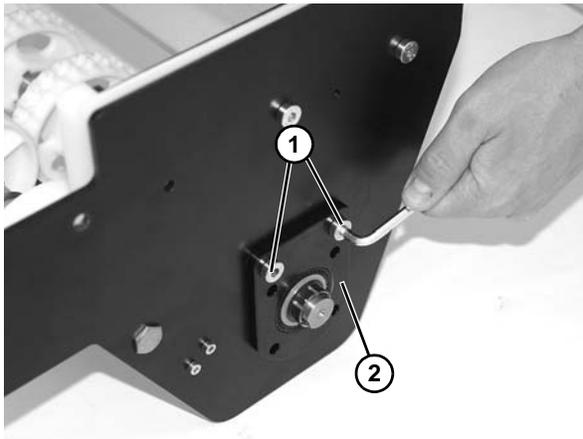

Figure 48
7. Remove two socket head screws (Figure 48, item 1) and remove plate (Figure 48, item 2).